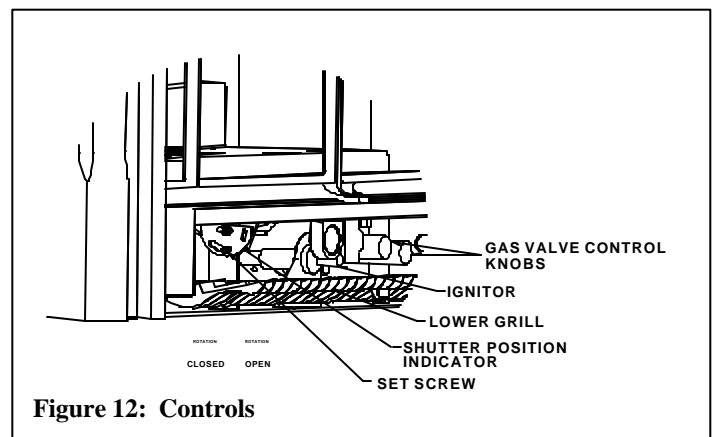

Figure 12: Controls
Only qualified personnel should adjust the air shutter. The air shutter is used to regulate the air-to-gas combustion mixture which influences the size and color of the flames. The air shutters have been positioned in the general location needed for the type of gas being used. If the stove is being converted for use with a different fuel the air shutters will need repositioning. If the unit is not burning as well as it should, then the air shutters may need adjusting. To adjust the air shutters, open the valve control door and locate the shutter position indicator, as shown in *Figure 12*. Loosen the position indicator set screw. The rod should be free to move. The open position (LP) is a counterclockwise rotation, and the closed position (NG) is a clockwise rotation. Carefully adjust the position of the shutter indicator to the desired location. Then tighten the set screw. Very little movement is needed to substantially change the burn and flame pattern.